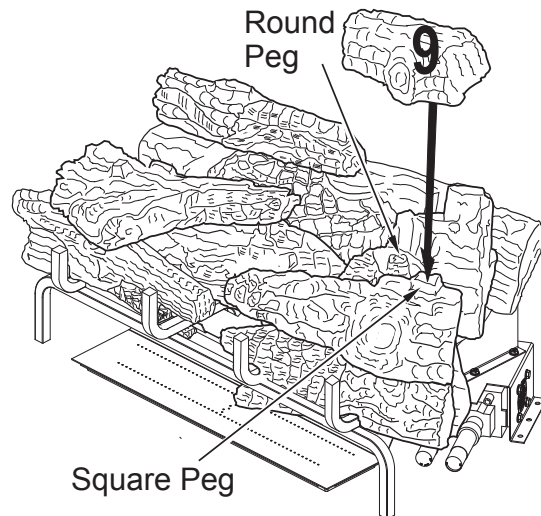

Figure 46 - Installing Log #9
9. Place the top right log (#9) on top of the right rear chunk log (#7) and front right mid log (#8) as shown in **Figure 46**. Match the round peg on the top of the right rear chunk log (#7) with the round hole on the bottom of the top right log (#9) and square peg on the top of the front right mid log (#8) with the square hole on the bottom of the top right log (#9).